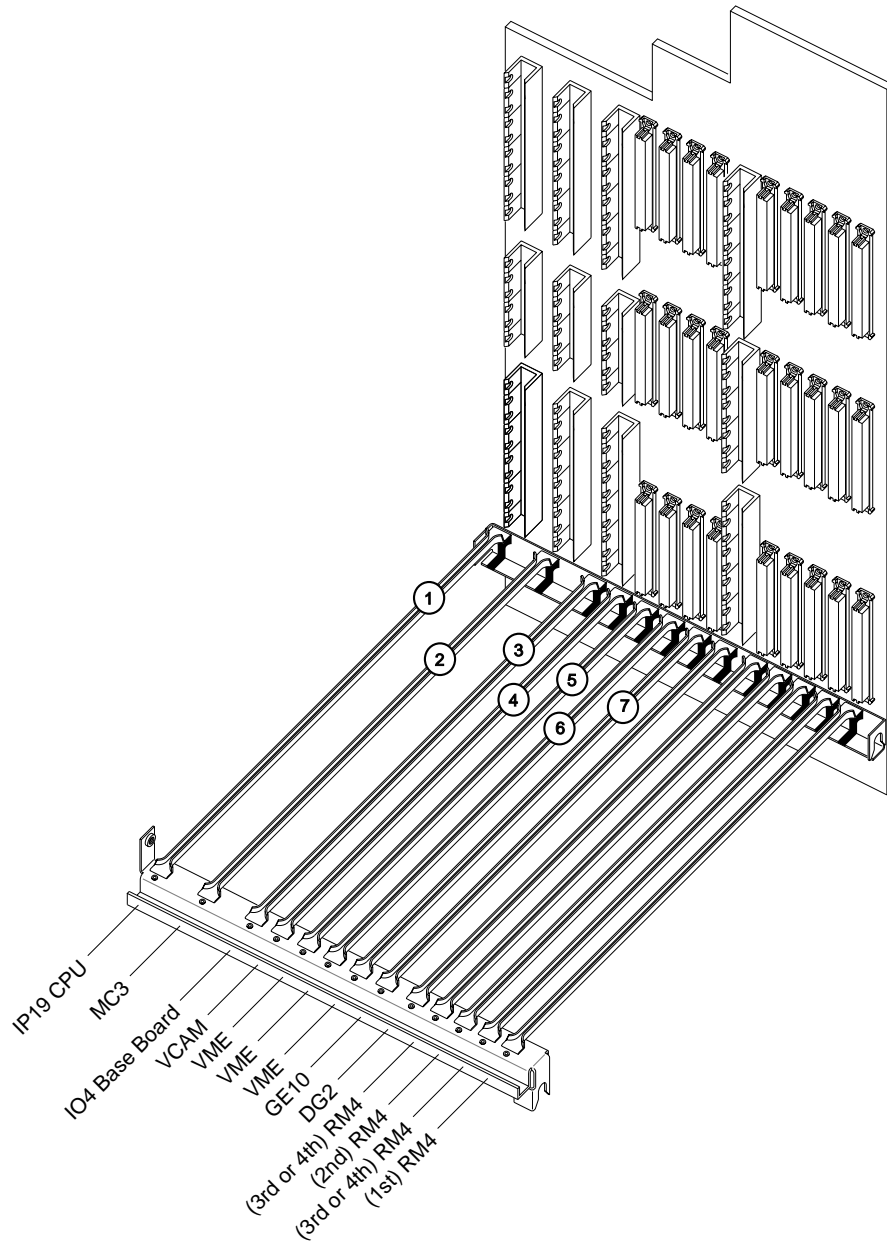

Figure 2-13 Onyx Deskside Slots for IO4 Boards
7. Open the front door and pull down the I/O panel in the front of the chassis to expose the IO4 boards, as illustrated in Figure 2-13.